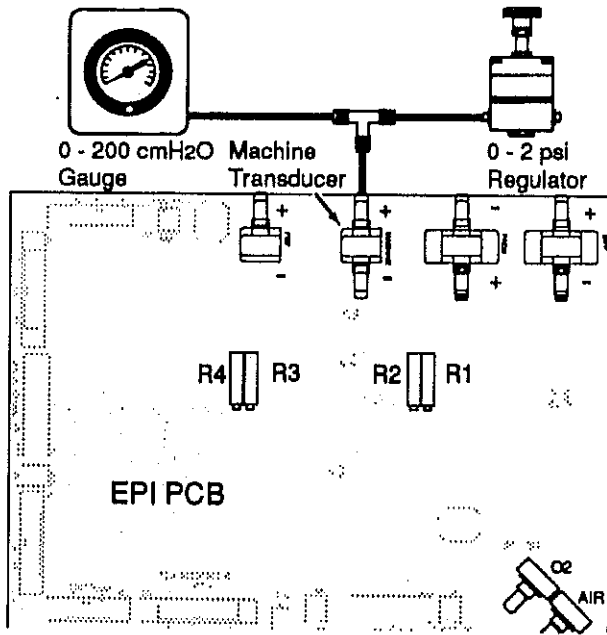

Figure 5-5
7. Connect the Machine Transducer as shown in Figure 5-5 and apply 120 ±.5 cmH₂O pressure.